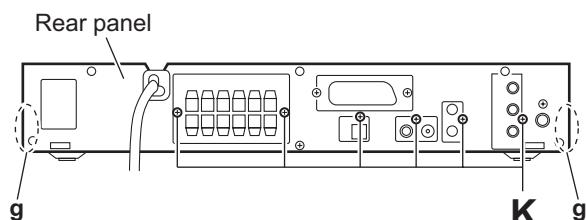

Fig.13
(6) From the back side of the main body, remove the six screws **K** attaching the main board to the rear panel. (See Fig.13.)
(7) Release the engagement sections **g** and remove the rear panel together with the scart terminal board and tuner assembly. (See Fig.13.)
(8) Take out the main board from the main body.